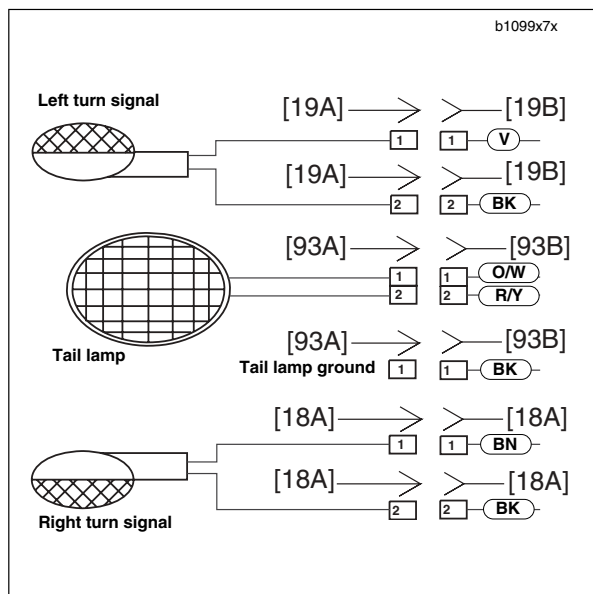

Figure 7-54. Rear Turn Signal Connections
3. See Figure 7-54. Disconnect bullet connectors on turn signal wires.
1. Insert bullet connectors through license plate bracket (4) and tail section.
4. Attach bullet connectors on turn signal wires as shown in Figure 7-54.